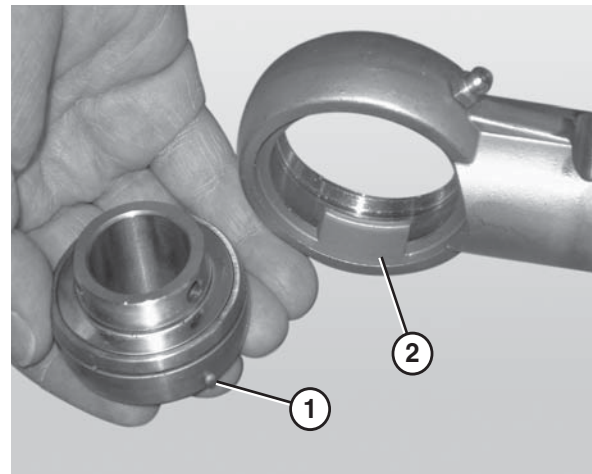

Figure 73
4. Remove the worn or damaged bearing (**Figure 73**).
When inserting the new bearing, make sure the anti-rotation notch (**Figure 73, item 1**) on the bearing lines up with the groove inside the housing (**Figure 73, item 2**).